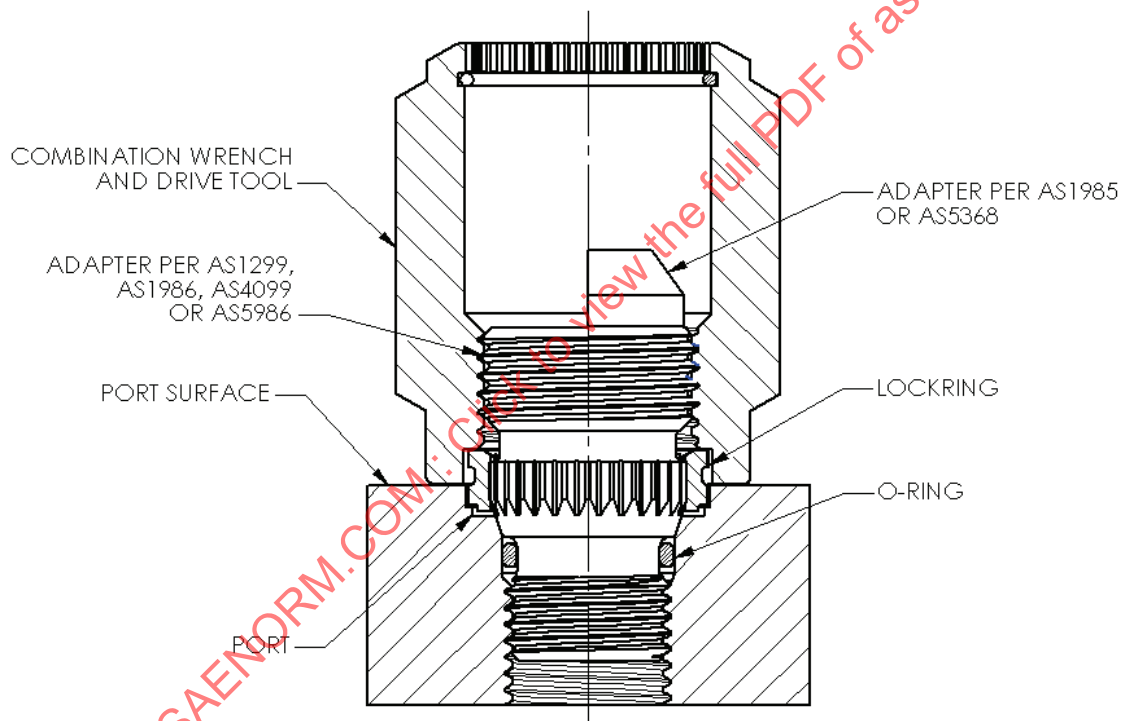

FIGURE 4 - LOCKRING INSTALLATION
- 5.2.5 While the zinc chromate (or other primer) applied per 5.2.4 is still wet, install the locking by rotating the threaded end of the combination wrench and drive tool clockwise onto the adapter assembly until it touches the locking. Using an open end or socket wrench on the tool, turn the tool in a clockwise direction until it bottoms on the port surface as shown in Figure 4. Visually observe that the tool has bottomed.